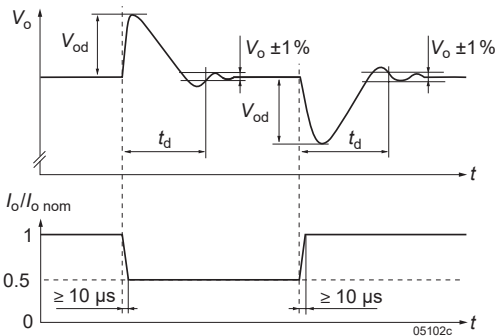

Fig. 4
- ³ Recovery time until V_o returns to $\pm 1\%$ of V_o ; see fig. 4.